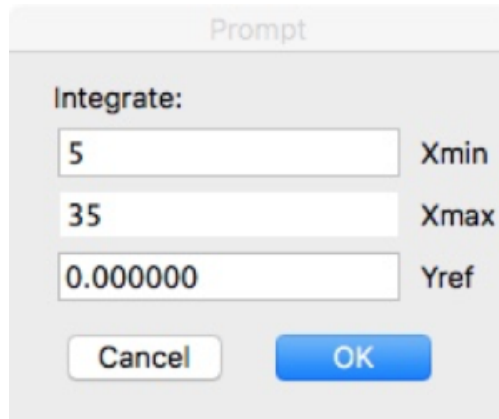

Figure 71- Prompt window allowing user to select the area of the curve to use for the integrate function.
- c. In the next dialogue box enter the maximum and minimum X values (**Figure 71**). These values should be set so that the negative lobes of the curves are included in the calculation. The Yref value should be set to 0. Select OK.